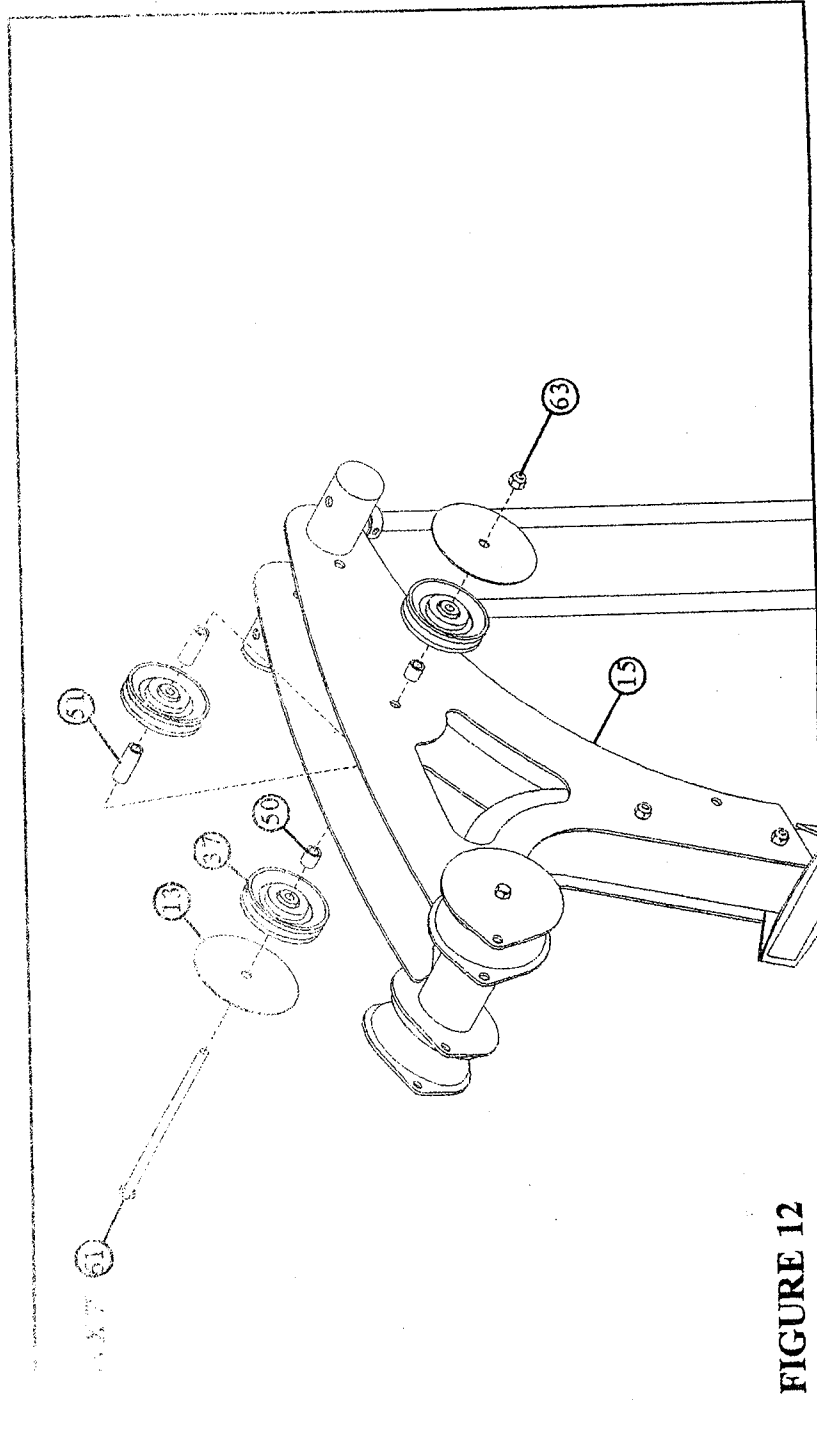

FIGURE 12
Assemble two BOOM PULLEY PLATES (13) and three 3-1/2" PULLEYS (37) to the BOOM PLATES (14 & 15) using one 3/8 X 7" BOLT (61), two 3/8 X 1/2" SPACERS (50), two 3/8 X 1" SPACERS (51) and one 3/8" LOCK NUT (63). See FIGURE 12.